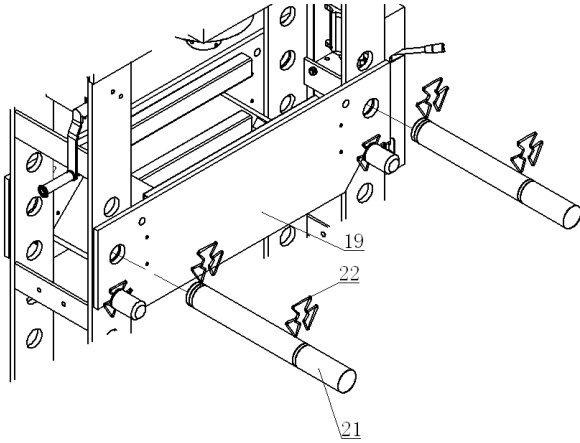

Fig 12
- 17.2 Adjust the bed (19) according to Section 13 'Bed Height Adjustment' to the appropriate working height (as close to the retracted ram piston as possible), then insert the pins (21) to the holes of body frame and lock the circlips (22). (Fig.12 & Fig.13)